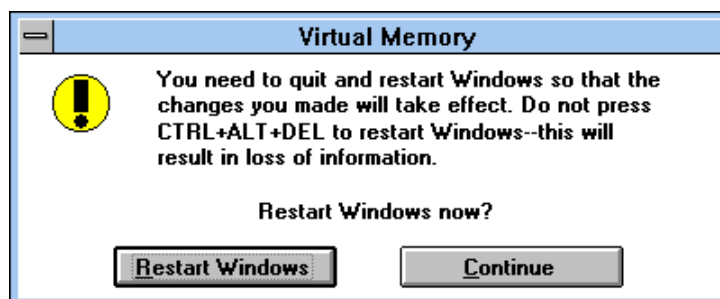

Figure 1.24. Restart Windows now? Dialogue Box
10. Click the **Yes** button to proceed. This brings up the **Restart Windows now?** dialogue box. Refer to Figure 1.24.